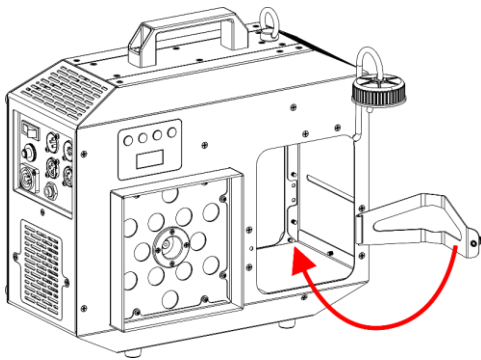

Fig. 10
- 05) Tilt the **bracket for liquid tank (03)**, as shown in Fig. 10.